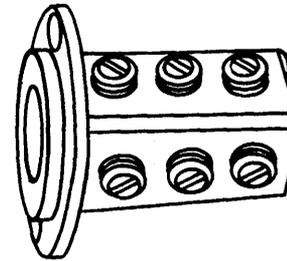
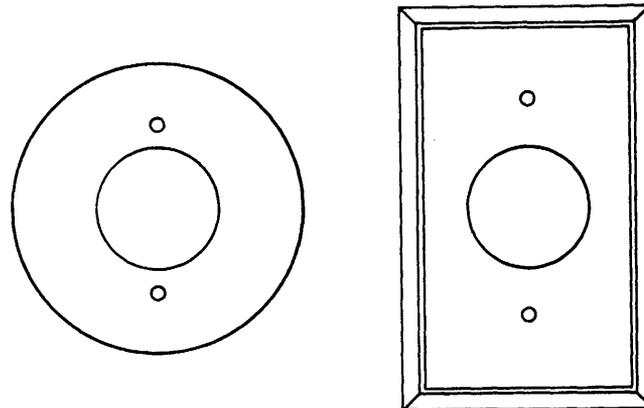

Figure 17. Number 47C Connecting Block.
Figure 18. Number 16A and 19A Outlet Plates for Use with Number 47C and 47D Connecting Blocks and Other Devices.
4.07 The number 47C connecting block (Figure 17) was manufactured by WECO in the same colors as the number 47B block. An equivalent block is manufactured by Suttle, which has continued the blue-beige version while adding the olive-gray to the original brown and ivory. The longer body of this block accommodates 12 terminals, with the four nearest the face designated 1, 2, 7, 8, and the four nearest the strain-relief keeper designated 5, 6, 11, 12. A 9/16-inch round cord-entry hole is surrounded at the face by a raised circular area nearly 1-1/4 inches in diameter. The raised portion fits into the 1-1/4 inch hole provided on the number 16A and 19A outlet plates (Figure 18). The plates are manufactured both by Suttle and by Communication Apparatus in colors to match the block.